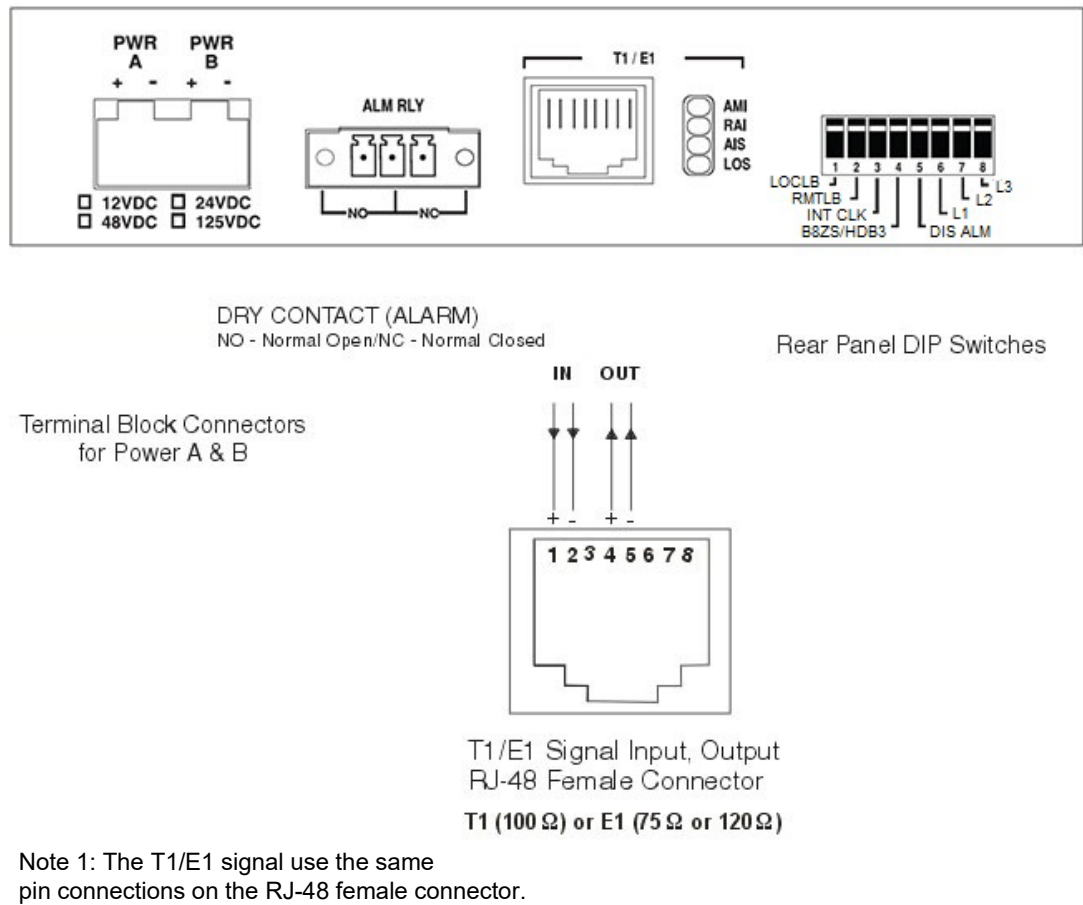

Figure 2-14 TC8610-1 Rear Panel T1/E1 Connector & Pin Assignment
2. Connect the T1/E1 connections as shown on the diagram below. Be sure to make the correct pin connections, refer to Figure 2-14, TC8610-1 Rear Panel T1/E1 Connector & Pin Assignment, on page 2-13 for pin assignments.
- The "LOS" LED should be off indicating that a valid T1/E1 signal is being received. If the "LOS" LED is flashing it means that the TC8610-1 is not receiving a valid T1/E1 or the T1/E1 cable is in question. Please reference Figure 2-14, *TC8610-1 Rear Panel T1/E1 Connector & Pin Assignment*, on page 2-13 for T1/E1 pinouts.